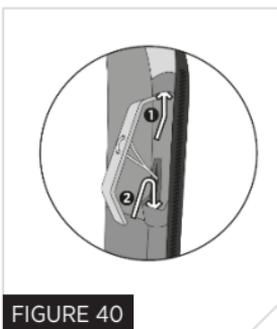
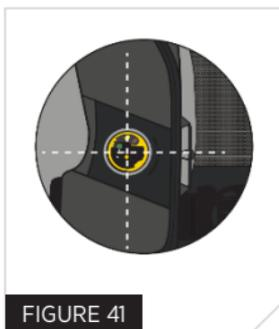

FIGURE 40
FIGURE 41
20. Secure the manual pull handle in the handle garage (Fig. 40). Ensure the status indicator is centered and visible through the window (Fig. 41).